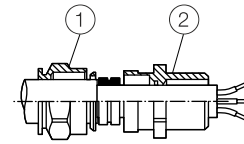

Figure 2: Tighten cable gland
IP rating IP66 / 67 is only achieved by installing the black neoprene sealing ring between the cable gland and the housing and by observing the tightening torque of 3.6 Nm (Figure 2, item ②).
5. Tighten the cable gland until the cable is firmly enclosed by the sealing ring (Figure 2, item ①). Do not tighten more than 1.5-times of the specified torque on the cases (see assembly instructions)!